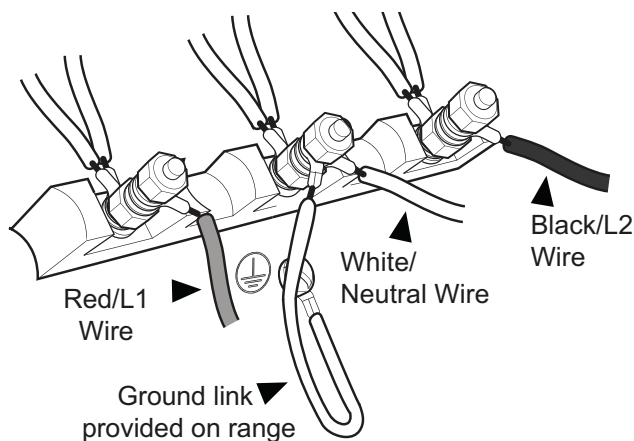

Figure 13: 3-Wire Connection
4. Secure the neutral, grounded wire of the supply circuit, to the center stud (silver colored) of the terminal block (see *Figure 13*).